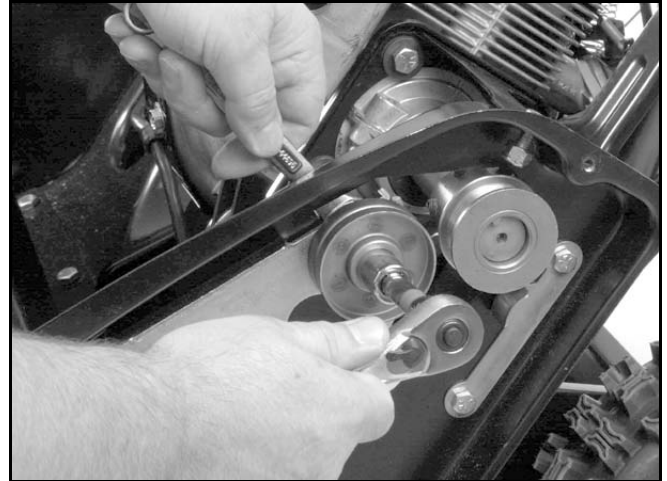

Figure 44
6. The idler pulley is secured to the idler/brake arm with a capscrew and locknut (Figure 44).